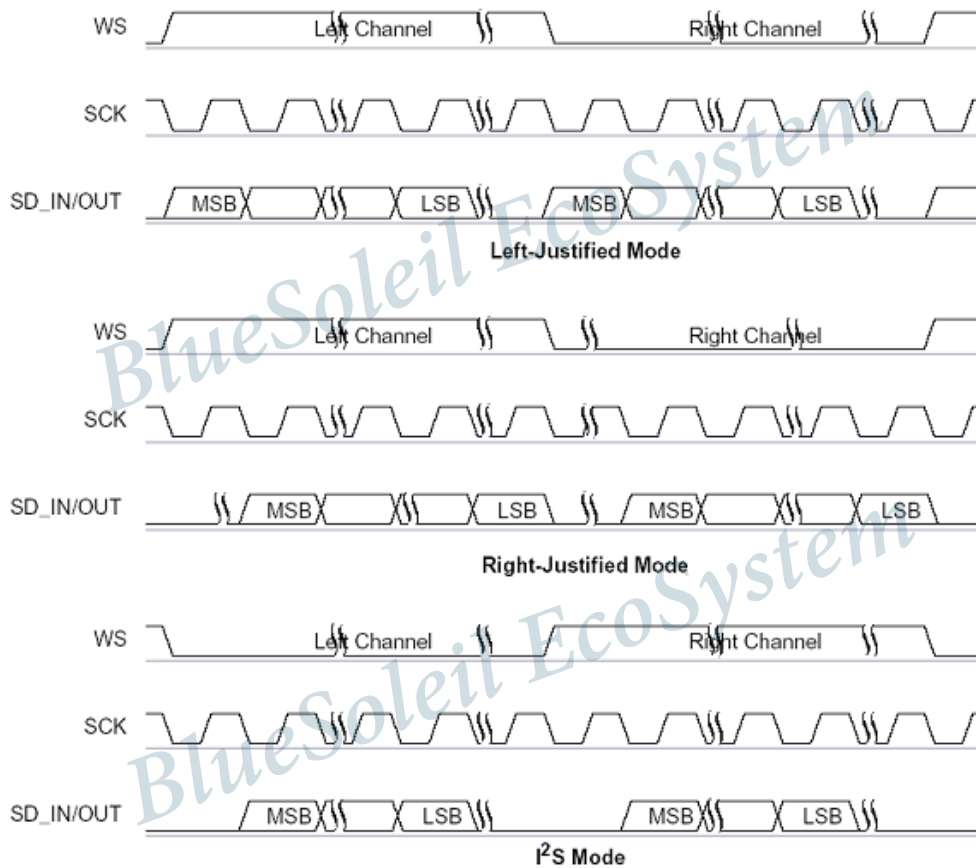

Figure 17 Digital Audio Interface Modes
The digital audio interface supports the industry standard formats for I2S, left-justified (LJ) or right-justified (RJ). The interface shares the same pins as the PCM interface, which means that each audio bus is mutually exclusive in its usage. These alternative functions are summarized in Table 18 below. Figure 17 shows the timing diagram.